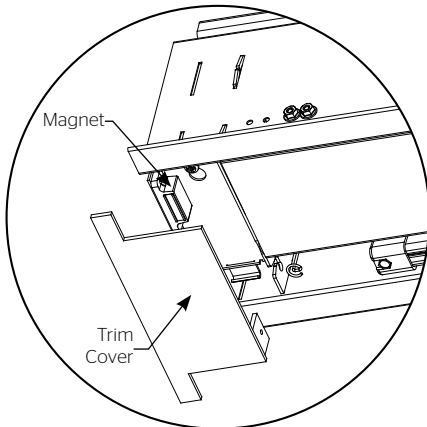
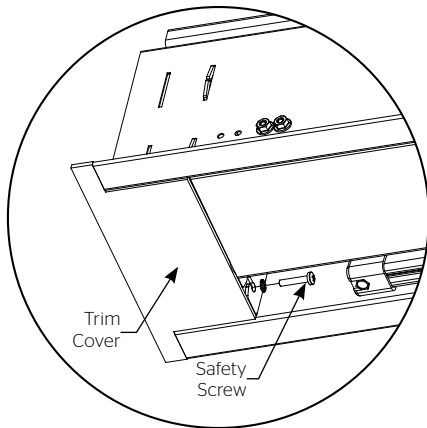

Figure 3
Figure 4
6. Install finishing trim covers on both ends of the case. Line up trim cover flush with case (Figure 3). Magnet will hold cover in place and secure with safety screw #2 Phillips screwdriver through motor and pin end bracket (Figure 4)